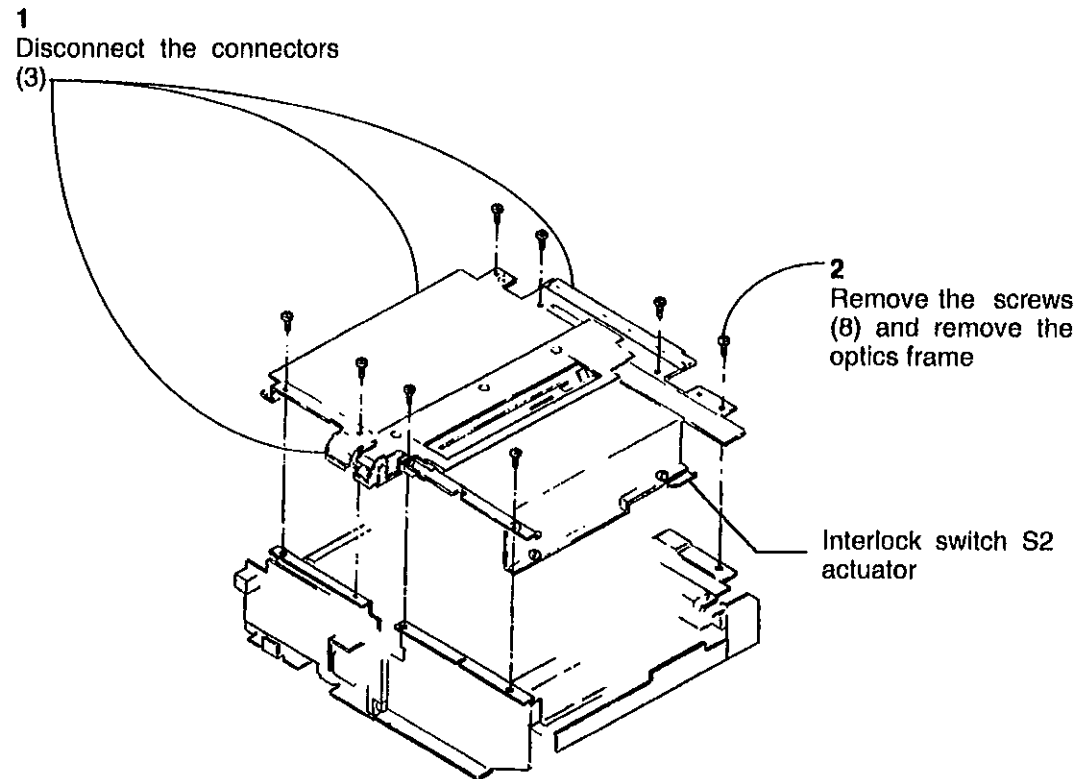

Figure 1. Removing the Optics Frame
- 2 (Figure 1) Remove the optics frame